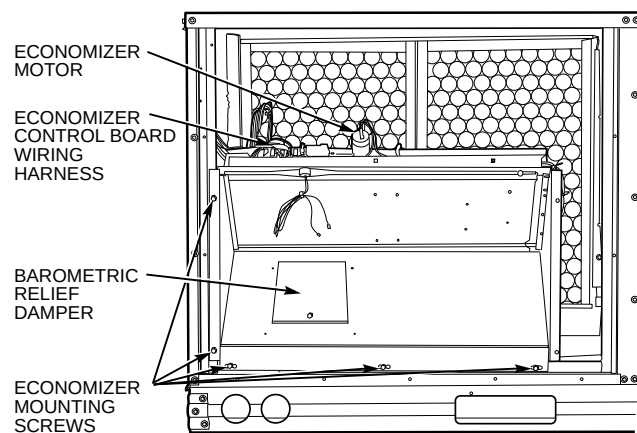

Fig. 14 — Varislide™ Economizer Installed in Unit
5. Slide economizer into unit and secure with screws. See Fig. 14.
7. Insert economizer plug into economizer harness. Remove tape from barometric relief damper. See Fig. 14.